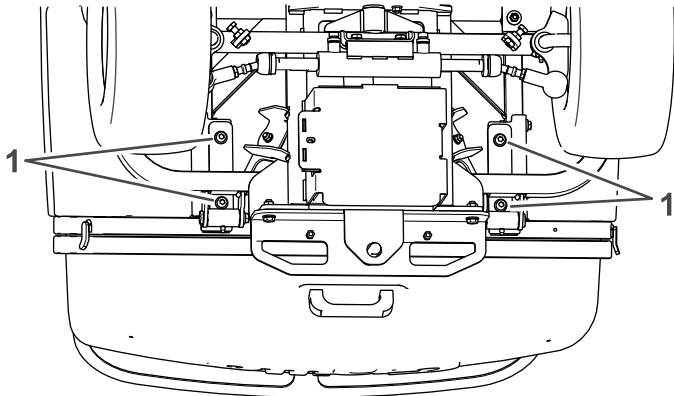

Figure 107
1. Loosen the 4 bolts that secure the hopper lift supports to the frame under the hopper (Figure 107).
4. Tighten the 4 bolts (Figure 107).